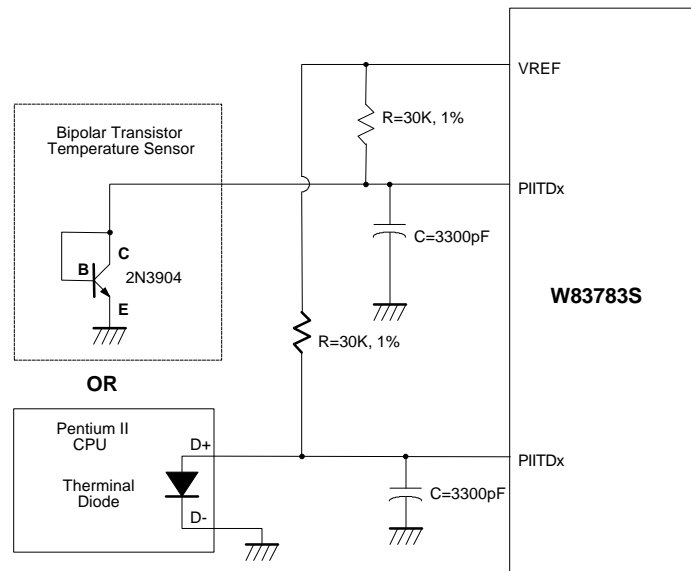

Figure 12.
The W83783S can alternate the thermistor to Pentium II™ (Deschutes) thermal diode interface or transistor 2N3904 and the circuit connection is shown as Figure 12. The pin of Pentium II™ D- is connected to power supply ground (GND) and the pin D+ is connected to pin PIITDx in the W83783S. The resistor R=30K ohms should be connected to VREF to supply the diode bias current and the bypass capacitor C=3300pF should be added to filter the high frequency noise. The transistor 2N3904 should be connected to a form with a diode, that is, the Base (B) and Collector (C) in the 2N3904 should be tied together to act as a thermal diode.